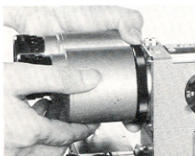

Fig. 86
(Revolve the milled black-colored ring 24 in the counter-clockwise direction.) (See Fig. 86)
- (2) Turn the beam splitter lever85 to IN so as to be able to observe, and adjust the diopter of the eyepiece lens. (See Fig. 86)
- (3) The image in the field of view can be oriented suitably with the image rotation ring89.